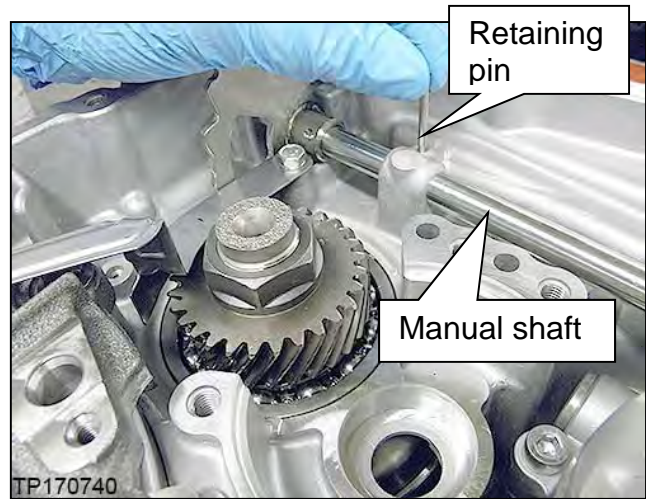
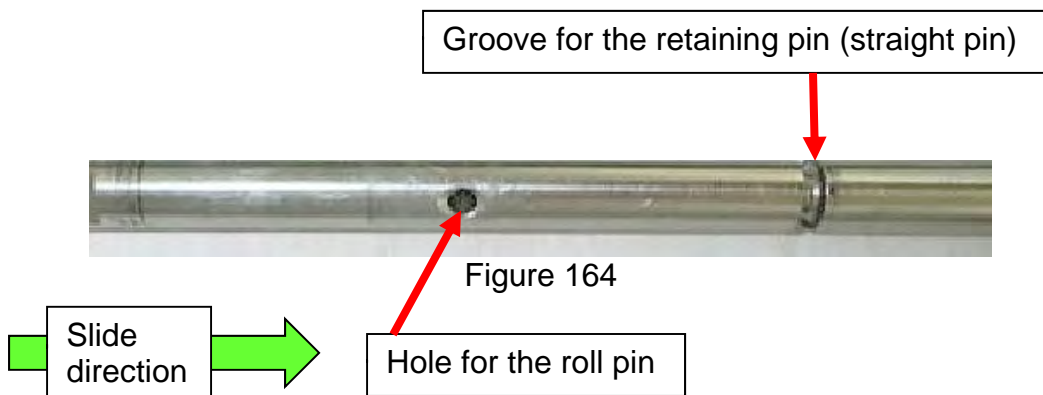

Figure 163
Figure 164
133. Install the original retaining pin as shown in Figure 163.
- Align the manual shaft groove (Figure 164) to allow the retaining pin (Figure 163) to go through completely.